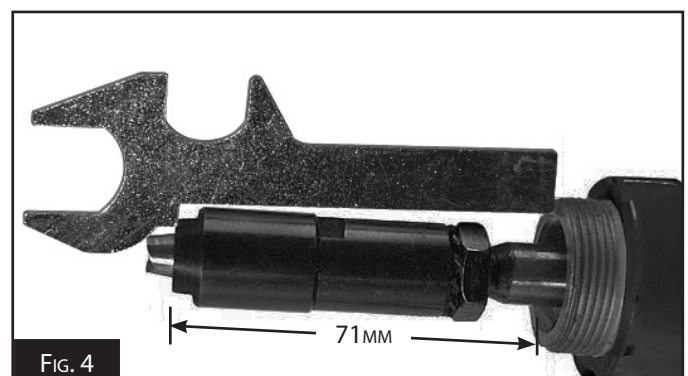

FIG. 4
6. Use the gauge spanner to check that length of the jaw assembly is correct (Fig. 4). This length ensures proper spring tension. Rotate the jaw assembly as needed until it fits the span of the gauge as shown.